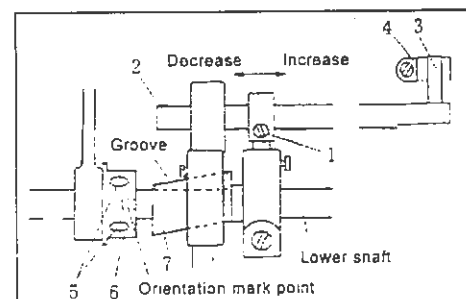

Fig.22
31. The forward/backward stitch length error adjustment(Fig.22)